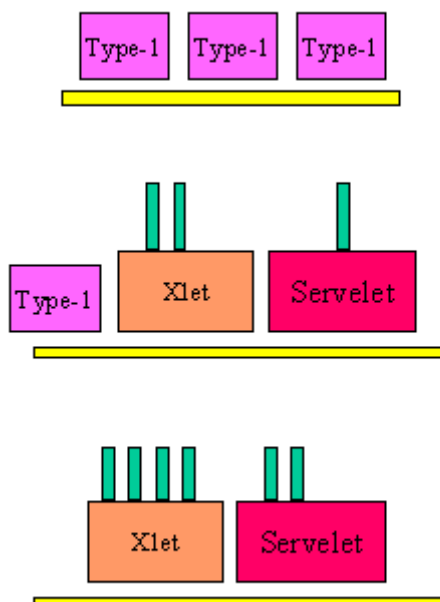

Fig. 2: Three Examples of Simultaneous Installation of Type 1 and 2 Applications
- **(MFP models only):** A maximum of three Type 1 applications can be installed on the MFP at one time, depending on the amount of virtual memory (VM) that the applications require. As mentioned above, the GW system regards the CVM Java core itself as a single Type 1 application. Therefore if one Xlet and one Servlet application are installed at the same time, the MFP will allow one additional Type 1 application to be installed (see Fig. 2 below).